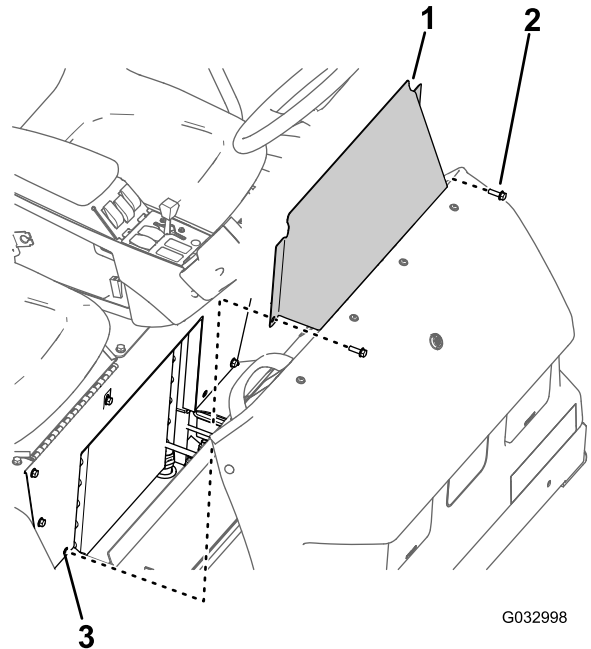

Figure 61
1. Remove the 2 flanged-head bolts that secure the seat-base-access panel to the seat base (Figure 61).
2. Remove the seat-base-access panel from the machine (Figure 61).
1. Align the holes in the seat-base-access panel with the holes in the seat base (Figure 61).
2. Assemble the seat-base-access panel to the seat base with the 2 flanged-head bolts (Figure 61) that you removed in step 1 of Removing the Seat-Base-Access Panel (page 52).